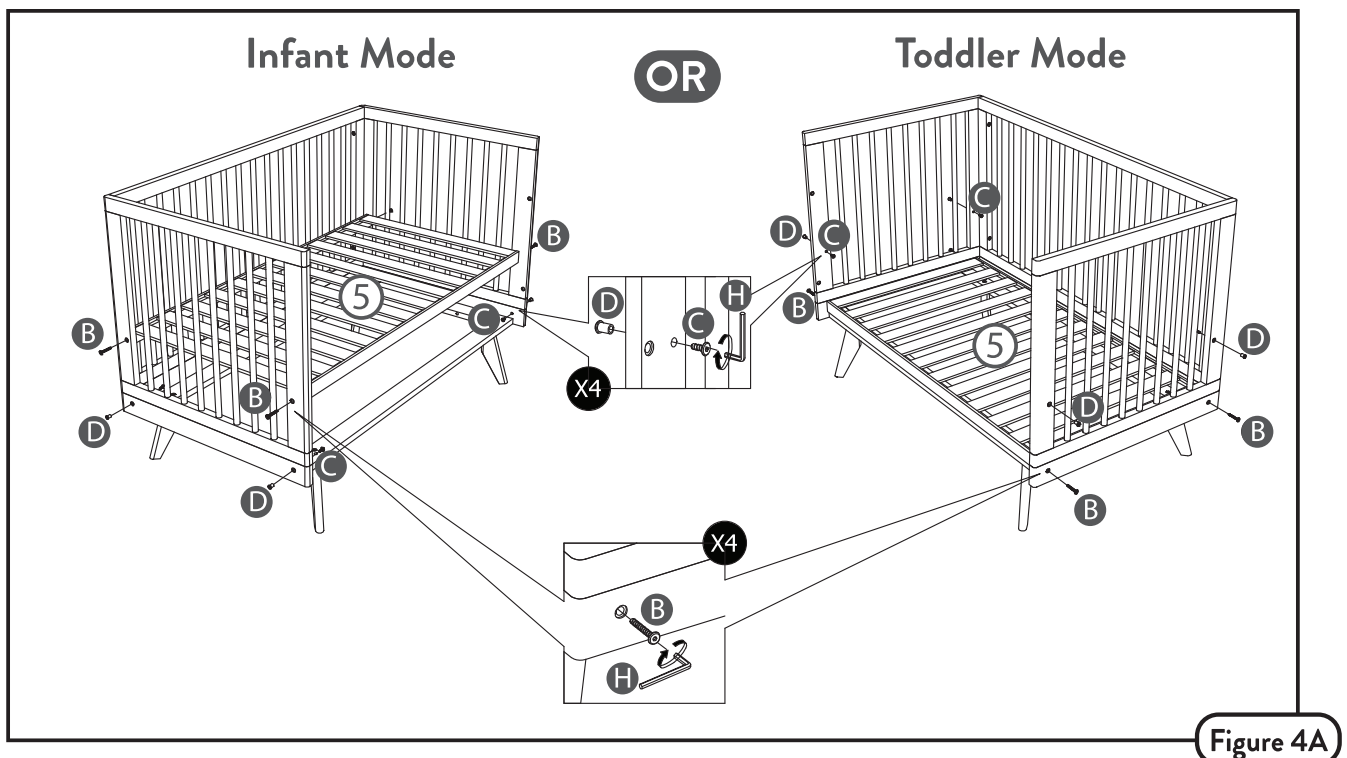

Figure 4A
Step 4. Correctly position the Mattress Base (5) as per Figure 4A. Highest Position is used for Infant Mode and the Lowest Position is used for Toddler Mode. Screw Mattress base in place using 40mm Bolts. Fill finger entrapments with 4 x 15mm Bolts (C) and D.Nut (D).